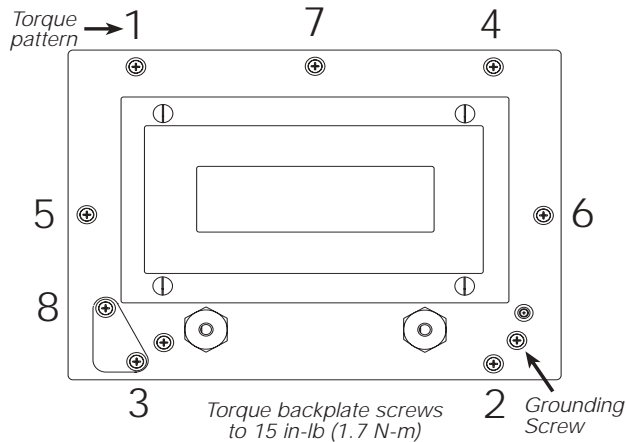

Figure 2-4. IQ plus 590-DC Enclosure Backplate
- One 8-32NC x 7/16 fillister head screw (PN 30623). This screw occupies the hole below the setup switch access screw on the indicator backplate (see Figure 2-4 on page 7).
NOTE: A grounding screw is provided on the indicator backplate for connecting a grounding wire (see Figure 2.4 on page 7).
Once cabling is complete, position the backplate over the enclosure, reconnect battery cable, and reinstall the backplate screws. Use the torque pattern shown in Figure 2-4 to prevent distorting the backplate gasket. Torque screws to 15 in-lb (1.7 N-m).